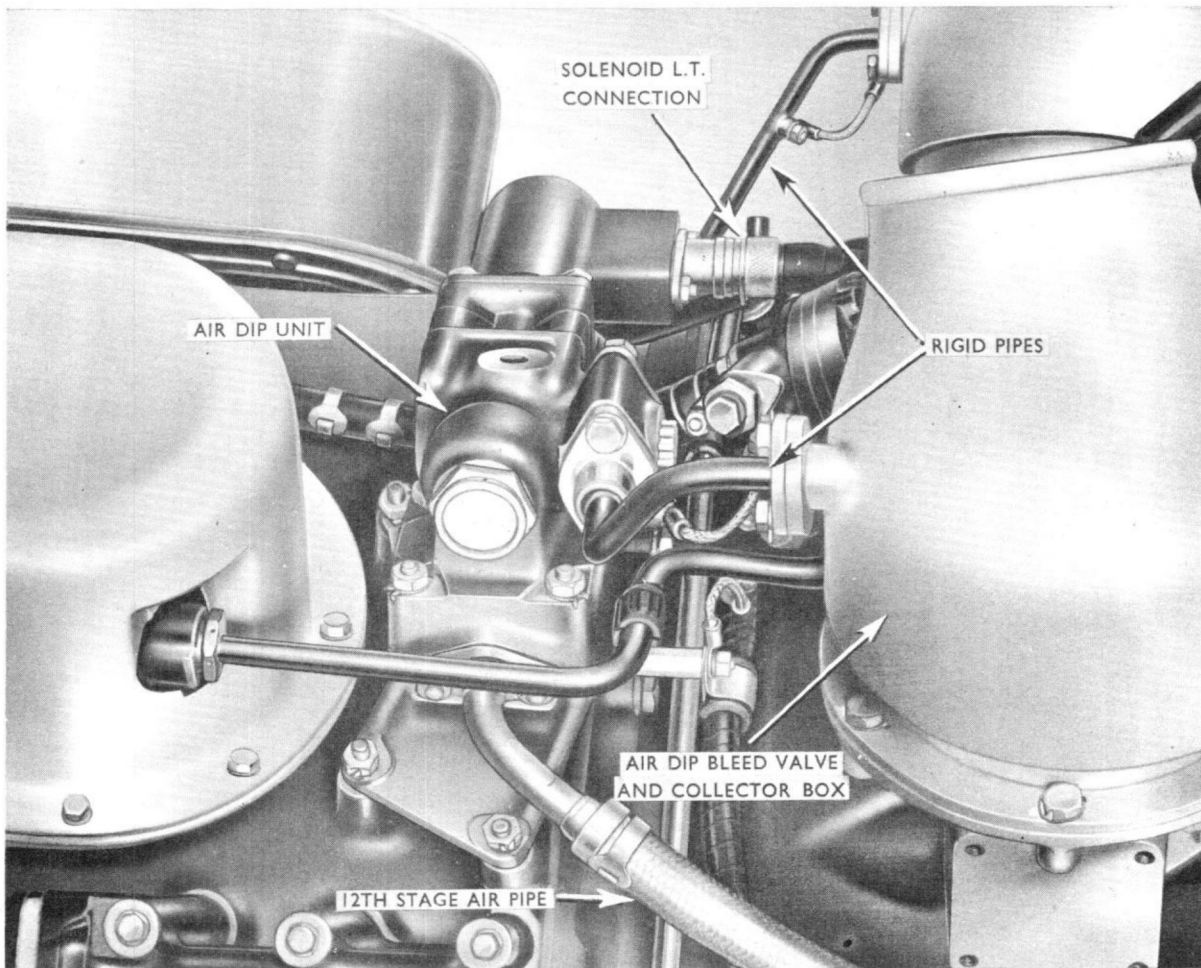

Fig. 5 Air dipping unit
25. Unscrew the electrical connection and remove the three pipes at their seal housing joints (fig. 5); disconnect the rigid pipes at their